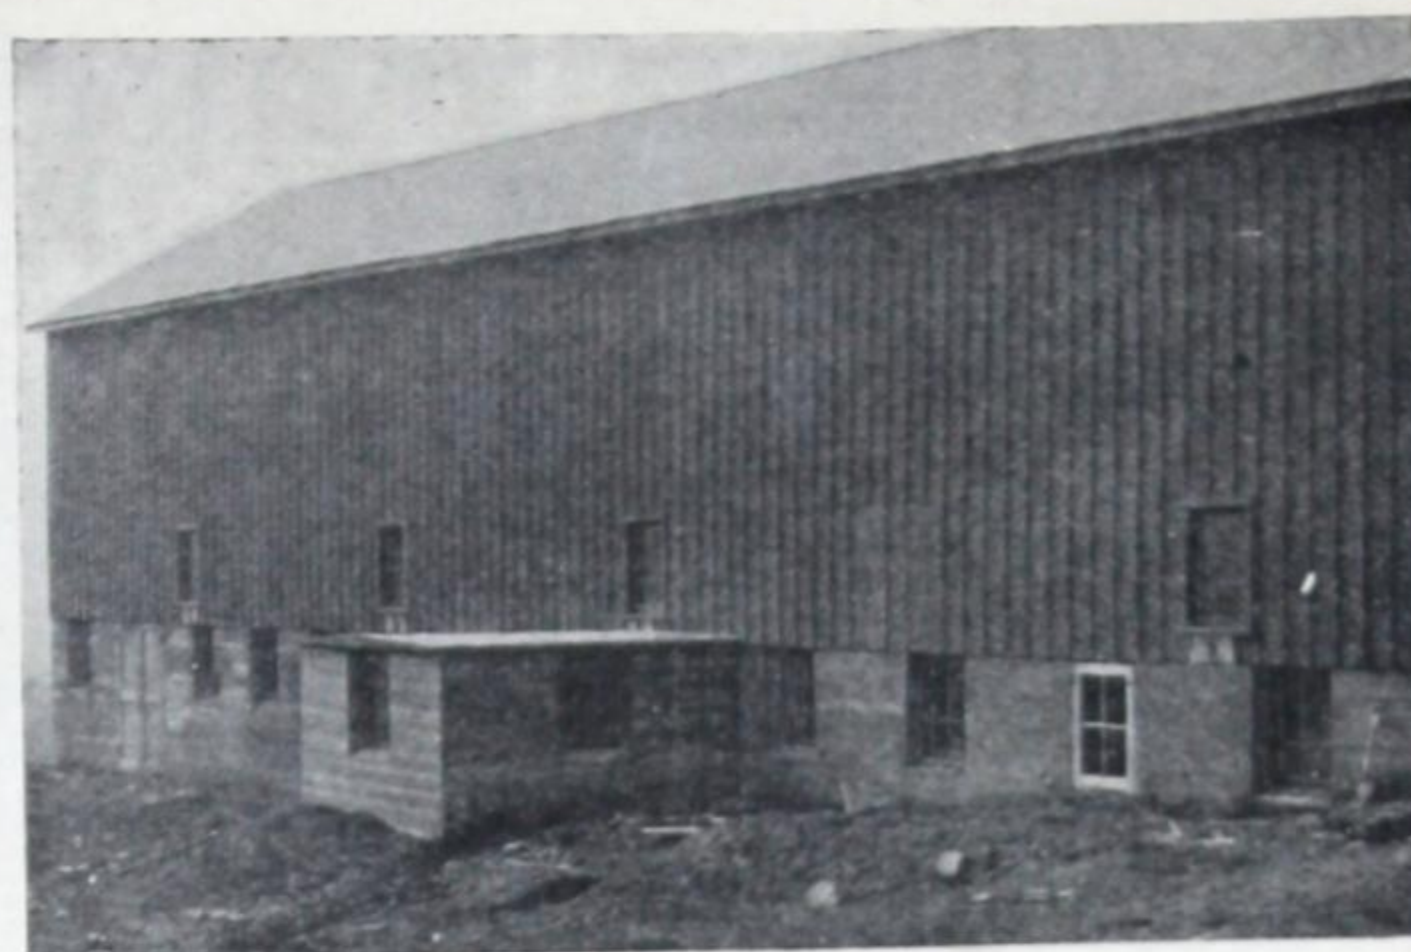

Fig. 76—A convenient milk house adjacent to cow barn.
*Location*—Build your dairy house *convenient to the barn* and along a driveway, if practical. But keep it entirely separate—even if it is built next to the barn. See Figures 76 and 78. Avoid building the dairy house too close to hog pens or manure pits, etc. The north side of the barn is a good location if it is feasible, because the barn will afford a certain amount of protection against the sun. All these points should be considered and the house located accordingly.